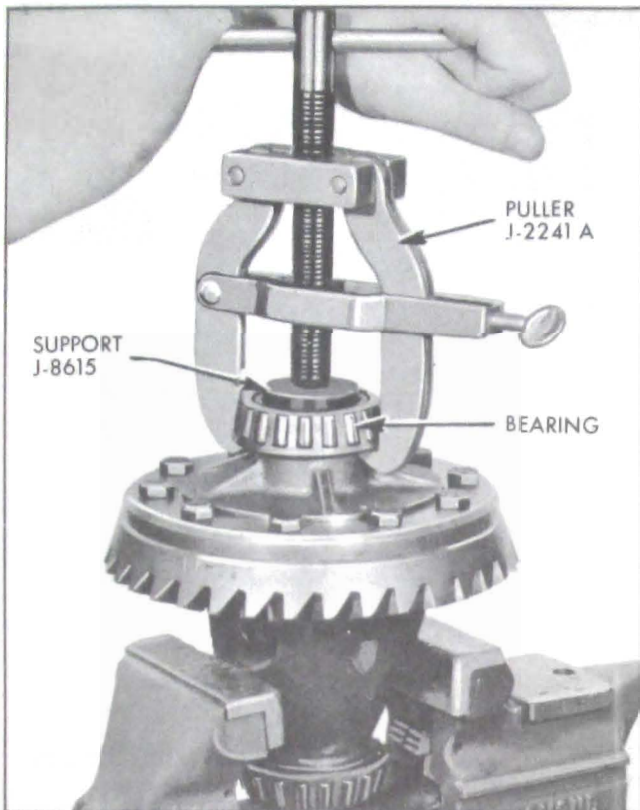

Figure 6-12—Removing Differential Side Bearing
1. If differential side bearings are to be replaced, insert Support J-8615 in center hole and pull bearing using Puller J-2241 A or Hydraulic Puller J-9005. See Figure 6-12.